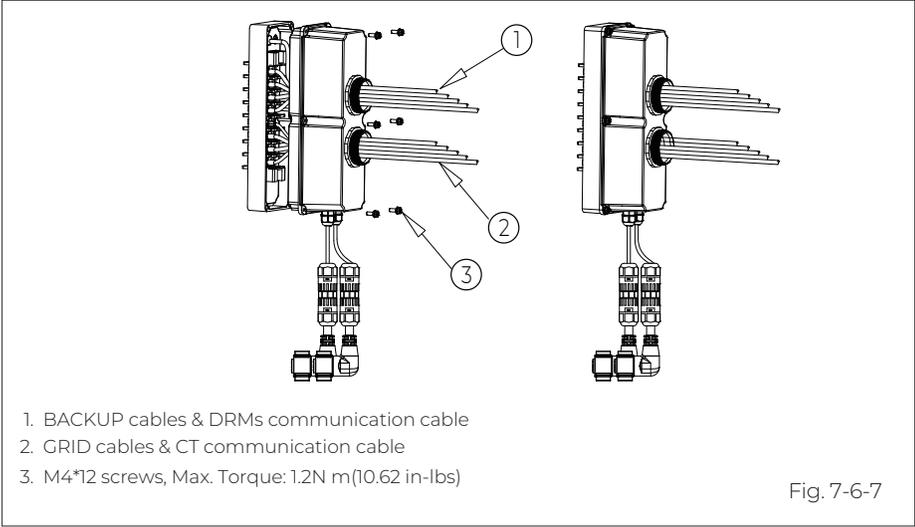

Fig. 7-6-7
**Step 8:** Pull out the BACKUP and GRID cables and securely fasten the protection case to the junction box using M4\*12 screws, as shown in Fig. 7-6-7.